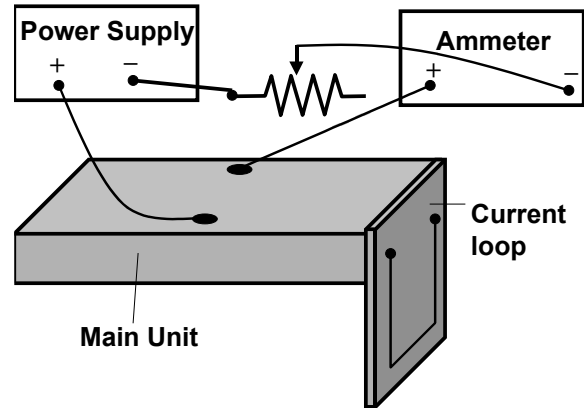

Figure 2. Circuit diagram.
3. Connect the power supply, ammeter and rheostat as show in Figure 2.